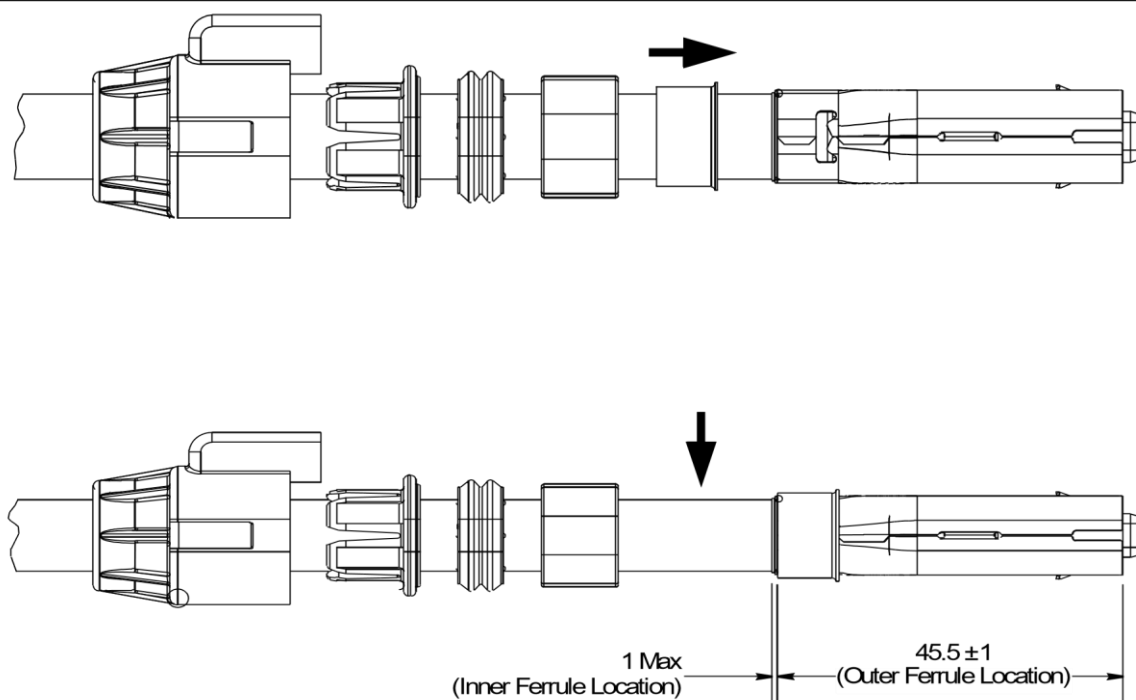

Figure 12
- 3.6.9.** Slide the outer ferrule forward into position over the overlapping ends of the connector shields as shown in Figure 12.